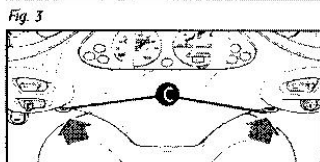

Fig. 3
- 3) Unscrew the three screws (one at the front «B», fig. 2 and two at the rear «C», fig. 3) that secure the handlebar fairing and then remove the fairing.